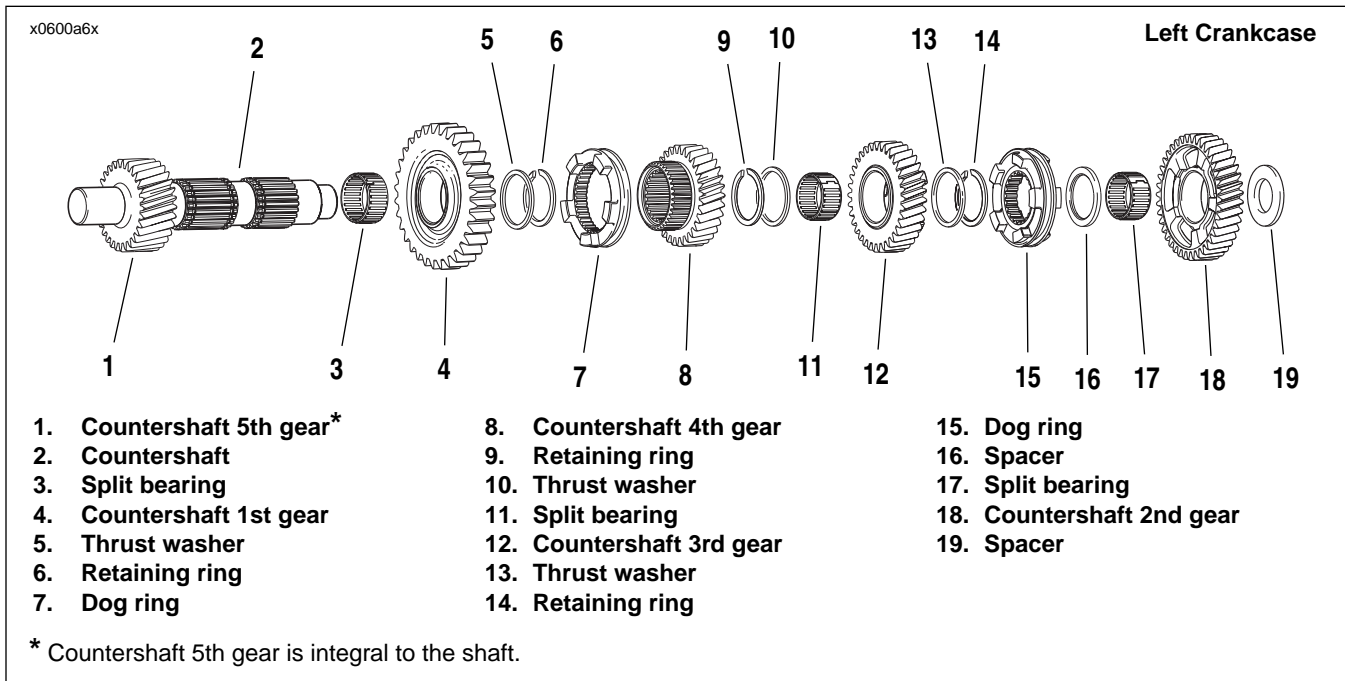

Figure 6-65. Transmission Countershaft Assembly Once Removed from Left Crankcase/Disassembly
1. See Figure 6-65. Install **new** split bearing (3) in 1st gear position on mainshaft.
2. Install 1st gear (4) and thrust washer (5).
3. Using RETAINING RING PLIERS (Part No. J-5586), expand and install **new** retaining ring (6).
4. Install dog ring (7) onto 4th gear (8). Now install dog ring and gear assembly onto countershaft.
5. Expand and install **new** retaining ring (9).
6. Install thrust washer (10).
7. Install **new** split bearing (11) in 3rd gear position on mainshaft.
8. Install 3rd gear (12) and thrust washer (13).
9. Expand and install **new** retaining ring (14).
10. Install dog ring (15). Make sure to install with dog ring facing same direction as when it was removed.
11. Install spacer (16).